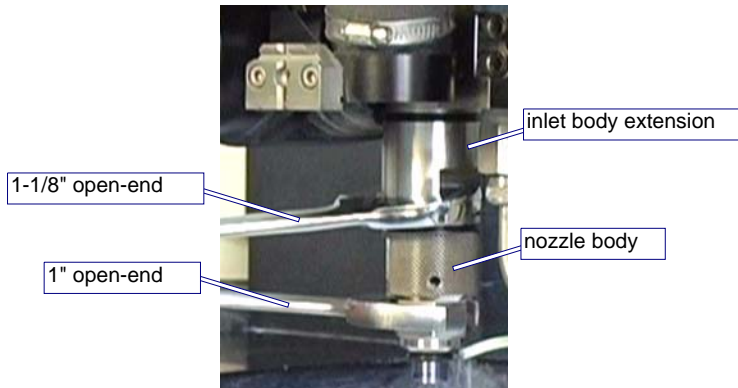

Figure 6-76: Removing the MiniJet Nozzle Body from the Inlet Body Extension
2. With a **1" open-end wrench** placed on the **nozzle body**, loosen the right-hand threaded **nozzle body** from the **inlet body extension** using both wrenches (Figure 6-76) and unscrew the **nozzle body** the rest of the way by hand.